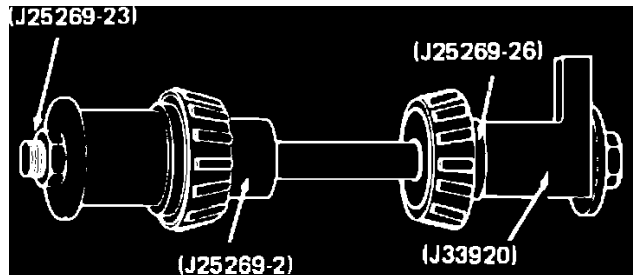

Fig. 35 Pinion height adjusting tools installation
2. Assemble pinion and tools shown in **Fig. 35**.